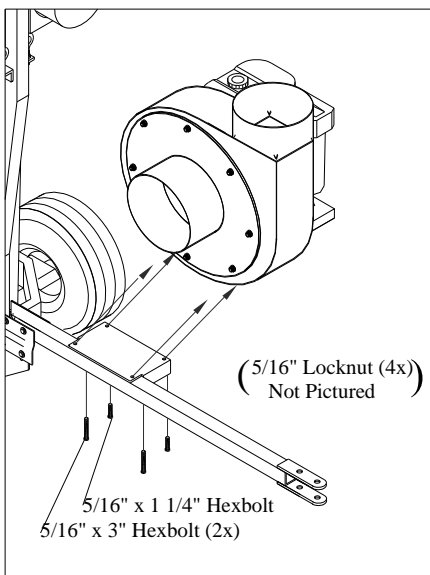

Fig. 7
6. Attach engine assembly to engine frame plate. Secure with two 5/16" x 1 1/4" HHC and two 5/16" x 3" Hexbolts and 5/16" locknuts. **Fig. 7**